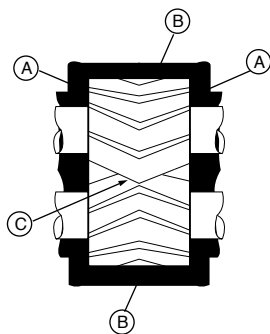

FIGURE 63. Slippage Areas
- The areas where slippage occurs on a typical external gear pump are illustrated in Figure 63.